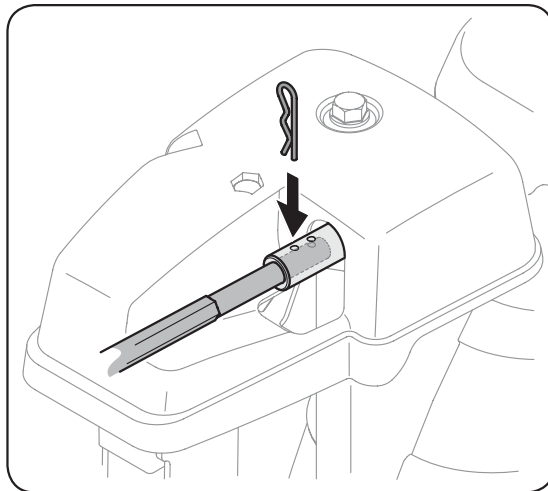

Figure 5-2
2. Pull out the chute control rod until the hole in it lines up with the second hole in the chute control assembly. See Figure 5-2.
3. Reinsert the cotter pin through this hole and the chute control rod. See Figure 5-2.